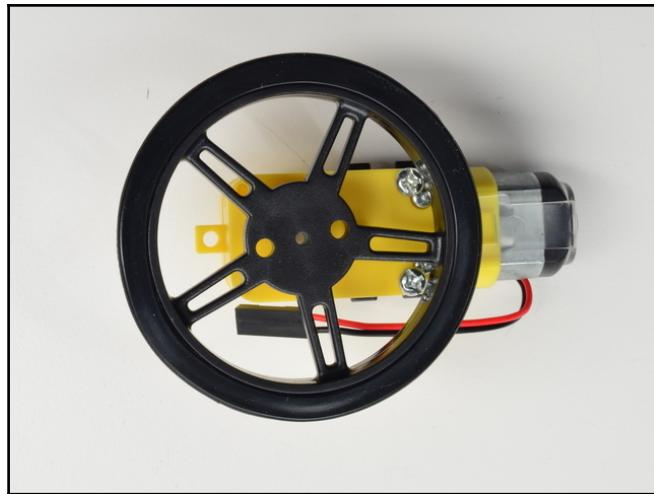

Figure 2.5: Attaching the wheel onto the motor. Image courtesy of Adafruit Industries (<https://www.adafruit.com>); Image credits—John O'Brien-Carelli
3. Put the rubber treads on the wheels. Then fit the wheels onto the white knob on the motors to snap onto the oval center. Finally, attach the wheels into place with tiny screws (*Figure 2.5*):